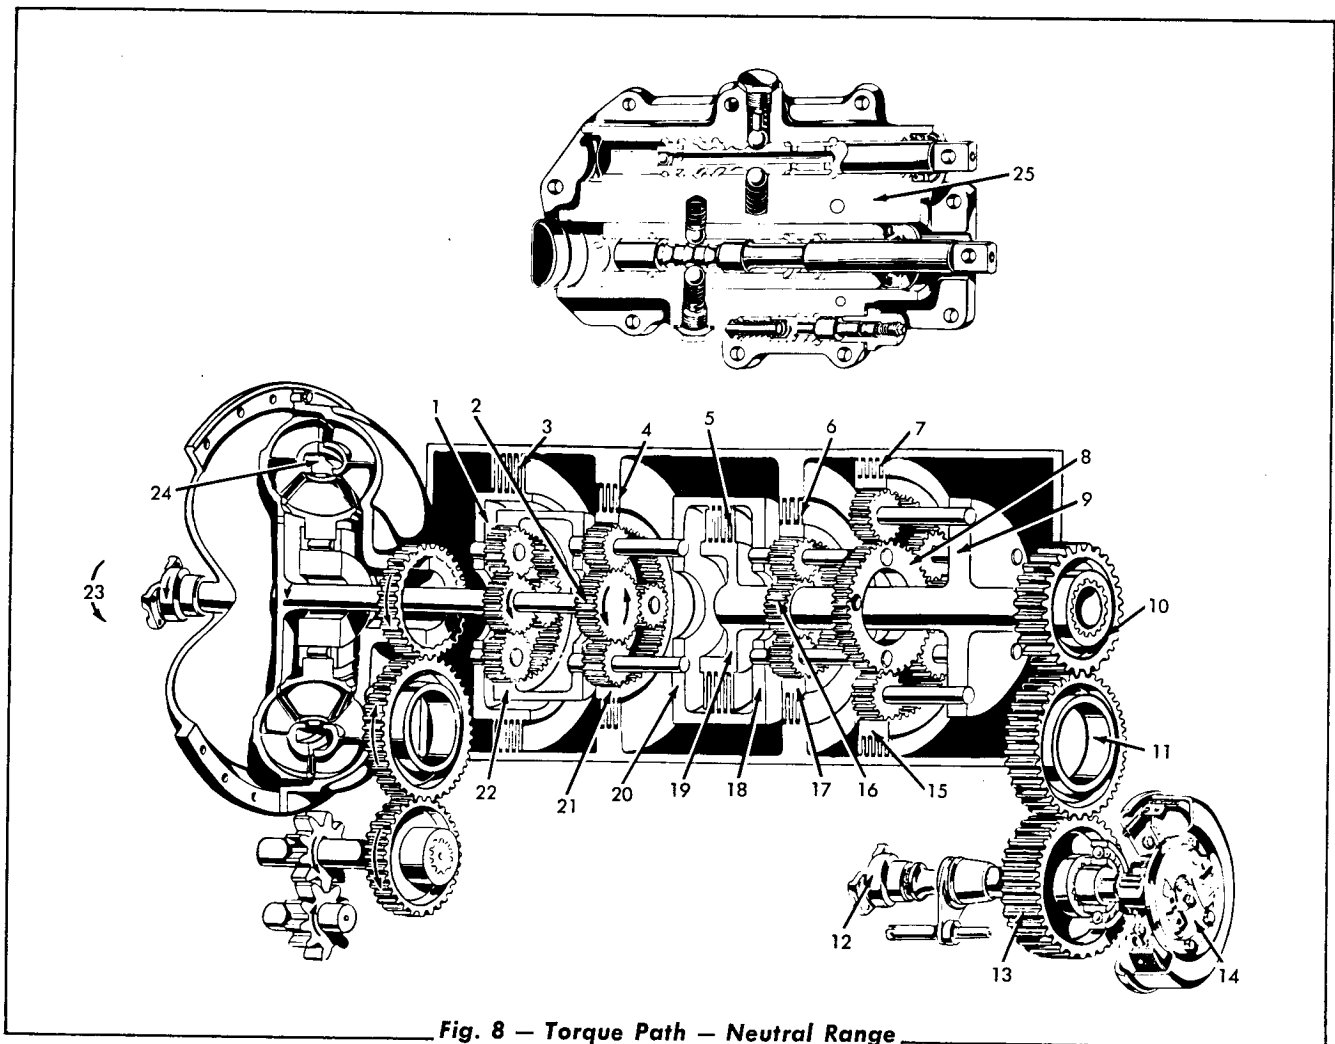

Fig. 8 — Torque Path — Neutral Range
The flow of power or torque through the transmission is smooth and continuous, and may take any one of seven different paths, called torque paths, which are illustrated in Figs. 8 through 14.
2. Neutral (Fig. 8)